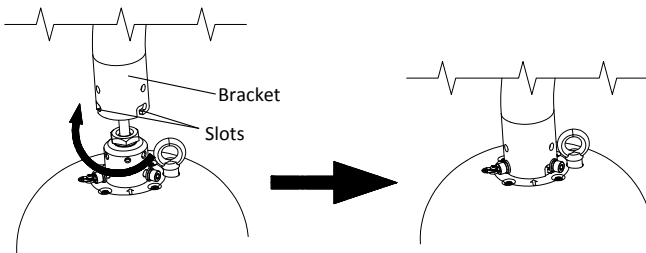

Figure 2-6 Rotate the Bracket
4. Align the bracket with the cable joint and rotate the bracket clockwise until three preassemble screws on the cable joint hooks onto three slots on the bracket as shown in Figure 2-6.